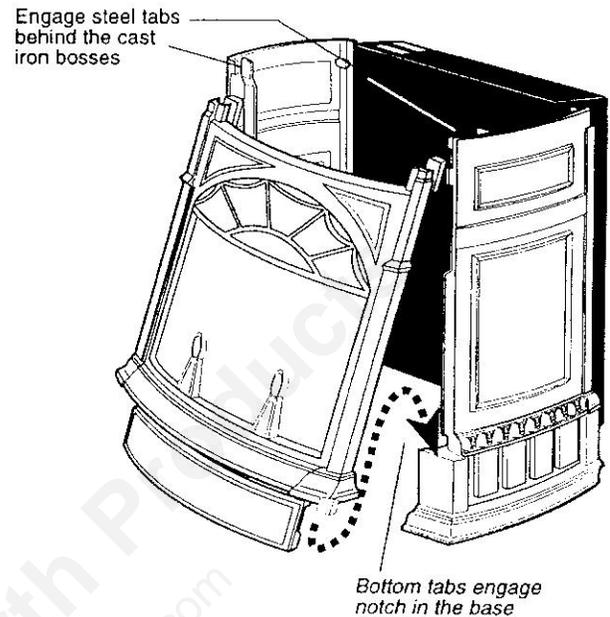

Figure 3-36. Install the Front Plate.
1. Grasp the Front Plate and lift it into position, engaging the two steel tabs at the upper corners behind the adjacent bosses in the Side Plates. See Figure 3-36. Seat the Front against the Sides so that the tabs at the bottom lip engage with the notches in the edge of the stove base.